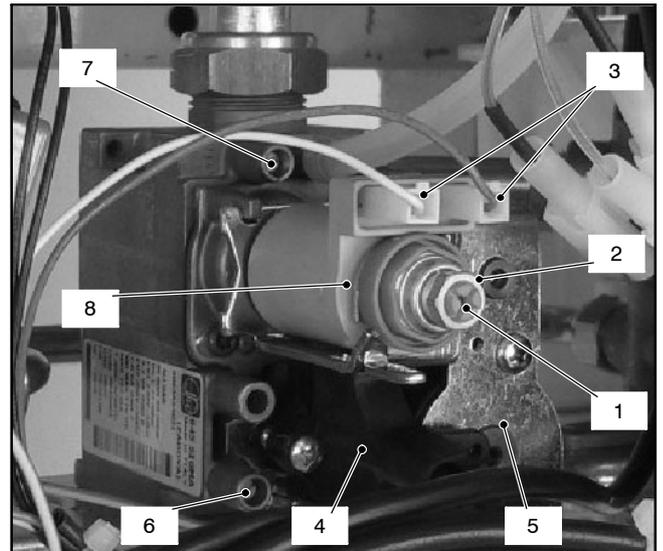

Fig. 2
9.2 Nomenclature of the parts (Fig. 2)
- 2 Open the gas valve inlet pressure test point (6 in Fig. 2) at the valve input, connect a suitable pressure gauge and check the gas pressure of the supply network.
- 4 Open the gas valve outlet pressure test point (7 in Fig. 2) and connect the gauge;
- 7 Rotate the maximum gas pressure adjustment (2 in Fig. 2) until you obtain the required pressure (by rotating clockwise the pressure increases).
- 8 Turn the boiler off and disconnect one of the two connectors (3 in Fig. 2).
- 9 Start the boiler and rotate the minimum gas pressure adjustment (1 in Fig. 2) until you obtain the required pressure (by rotating clockwise the pressure increases).